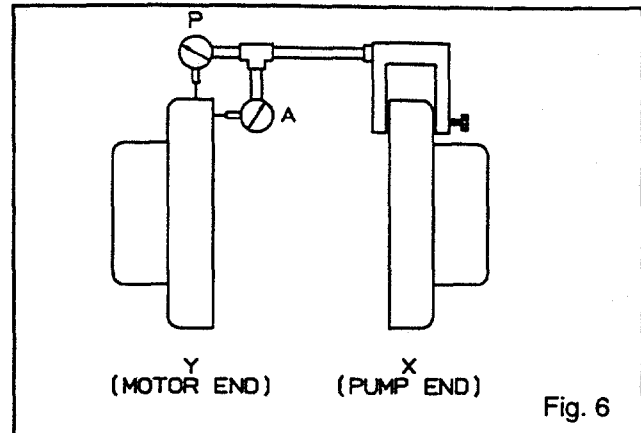

Fig. 6
1. Mount two dial indicators on one of the coupling halves (X) so they contact the other coupling half (Y) (Fig. 6).
1. Zero indicator P at top dead center of coupling (12 o'clock) half Y (Fig. 6).